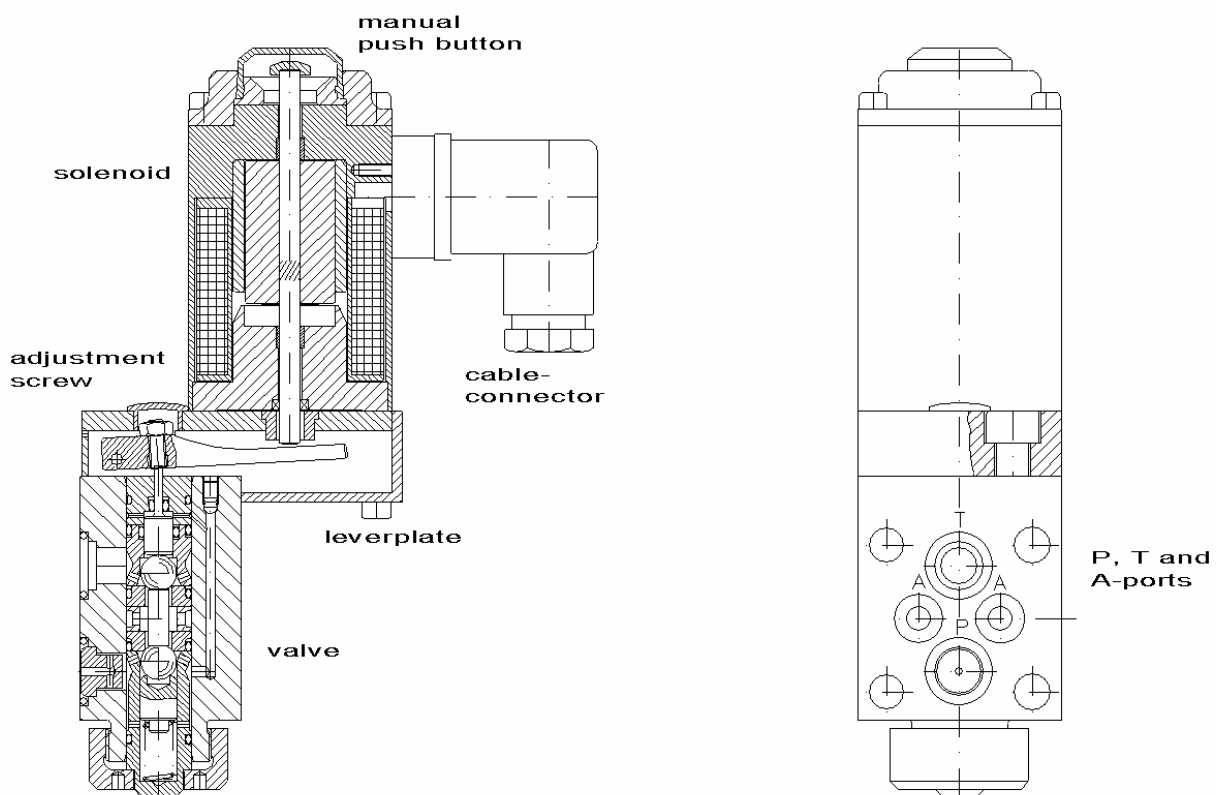

fig. 1: 3 way, 2 position valve
- The correct installation on a 3 way 2 position valve, the T-port is always the one closest to the solenoid, the P-port is the furthest from the solenoid. The A-port is located between the P & T ports. Refer to fig. 1.